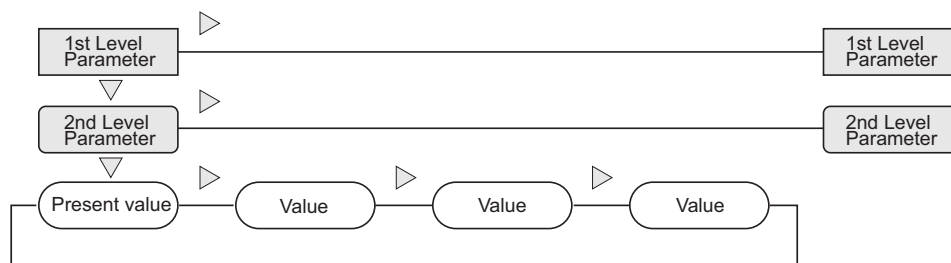

Figure 3-16. Navigating the Setup Menu
The front panel keys can be used as directional keys to navigate through the menus in configuration mode. An example of navigation process is shown below in Figure 3-16.
**NOTE 2:** Use arrow keys, see Figure 3-16 on page 20 to set the maximum weight value.